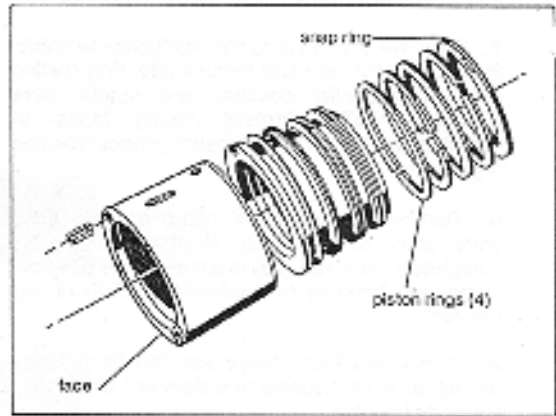

Fig. 33. Rear Commutator Bushing
6. Carefully remove snap ring from aft end of rear commutator bushing. Carefully remove inner sleeve (with piston rings). See figure 33